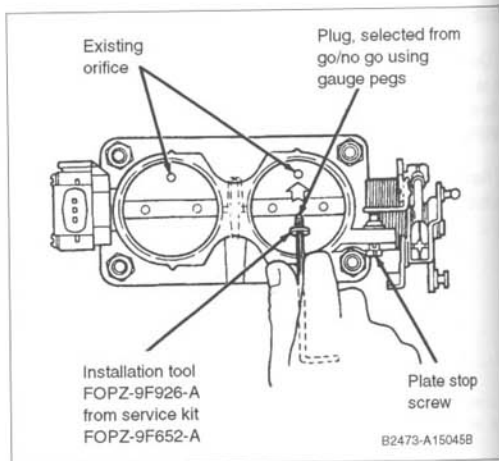

Fig. 5-3. If necessary, install plug in throttle plate orifice (Dual throttle plates shown.) Notice plate stop screw.
5. Block off orifice in throttle plate. See Fig. 5-3.